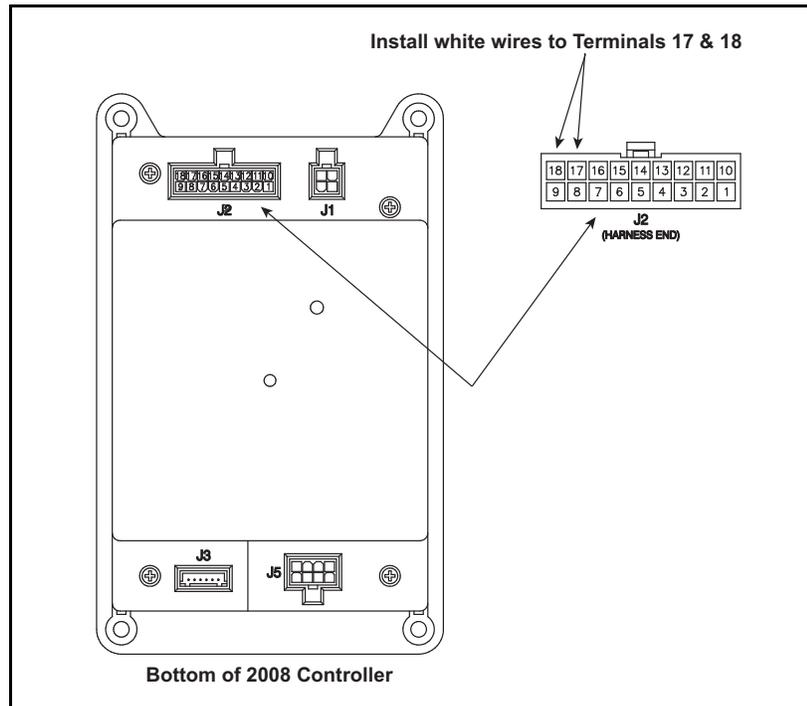

Figure 1. Bottom (underside) of 2008 Controller
1. Bottom (underside) of 2008 Controller for Steps 1-3. Unplug the 18-pin connector from the control panel underside by carefully releasing the latch on the side of the connector, Figure 1.
3. Install the 18-pin connector back into the J2 connector on the back of the control panel. See Figure 1.